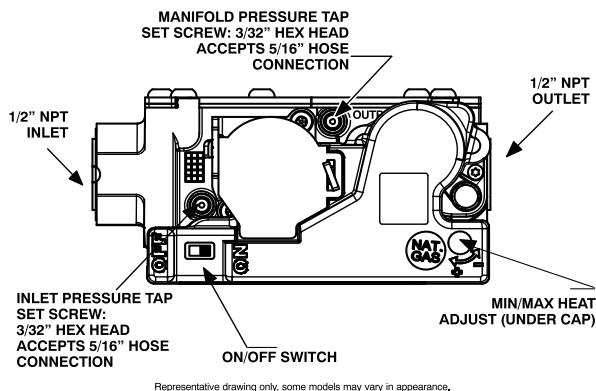

Fig. 64 – Gas Valve with Tower Pressure Ports
2. Loosen set screw on manifold tower pressure tap no more than one full turn with a 3/32-in. hex wrench, or remove the 1/8 in. NPT plug from the manifold pressure tap on the gas valve, see Fig. 64.